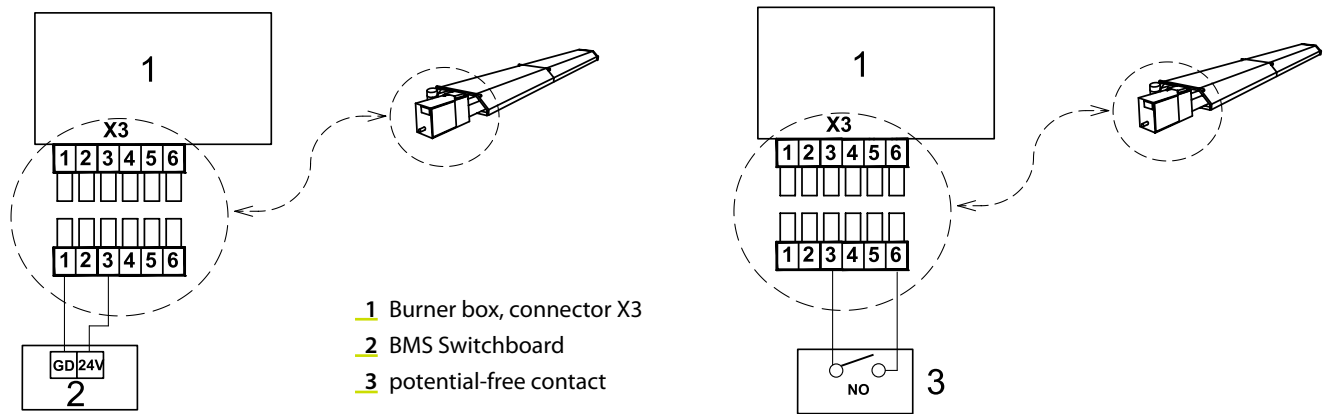

Fig. 46: Possibilities to connect the operation permission
The "requested power" signal can be fed as (Fig. 46) a 0–10 V signal on terminal (4) against GND on terminal (1) of connector X3